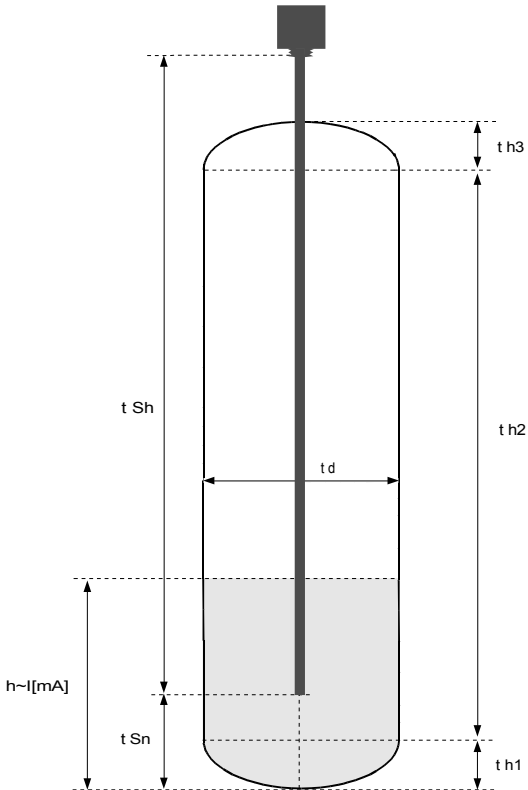
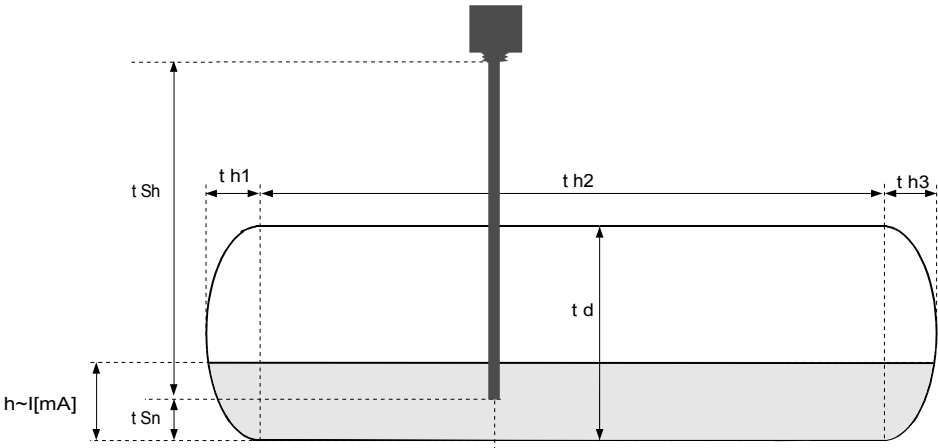

Figure 7.1 Parameters of cylindrical tank in vertical position.
Figure 7.2 Parameters of cylindrical tank in horizontal position.
„t h1”, „t h2”, „t h3”, „t d” - the parameters defining shape of cylindrical tank (Figure 7.1 and Figure 7.2).
- „t Sn”, „t Sh” - parameters defining the length and position of the sensor used to measure level of liquids, gases or solids in the tank (Figure 7.1, 7.2).